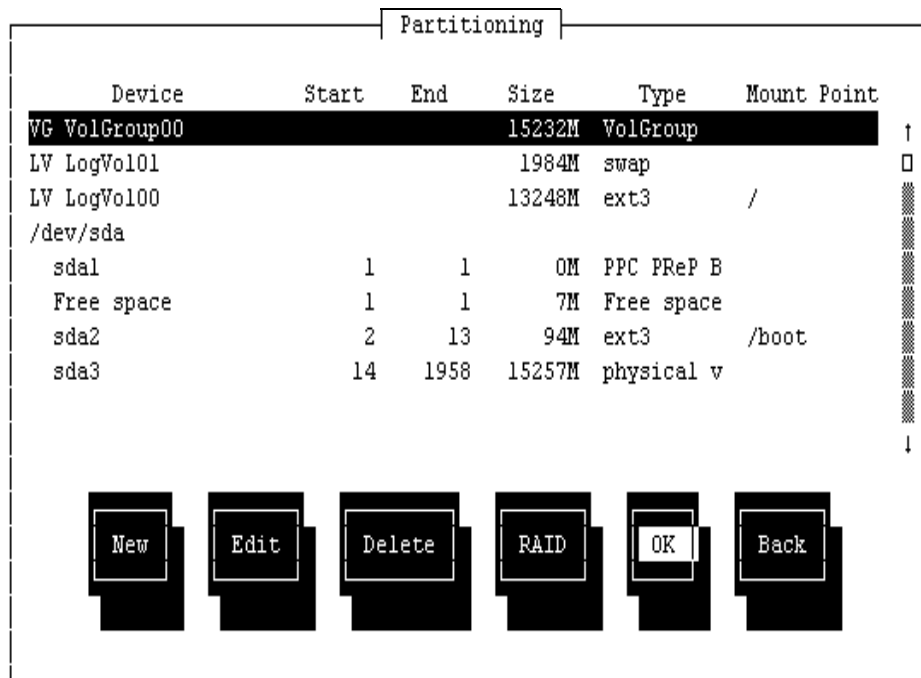

Figure 8-17 Review Partitioning panel
16. Review the allocated size for swap, ext3 file system, and /boot, as shown in Figure 8-17 on page 350. Press **OK** to confirm.